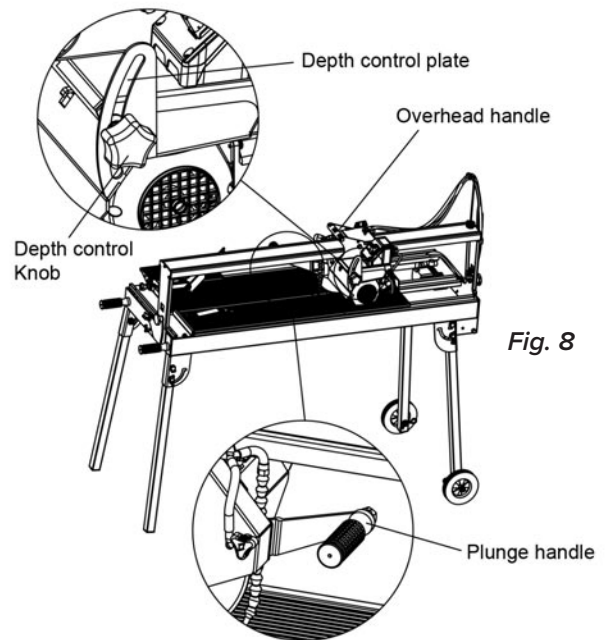

Fig. 8
1. While holding the plunge handle, loosen the depth control knob at the depth control plate. (see figure 8)
2. Make sure the depth control knob is tight. (see figure 8)
1. Before starting the cut, the cutting head must be fully raised. Be sure to grasp the plunge handle extending from the blade guard. (see figure 8)
3. Loosen the depth control knob. (see figure 8)
5. Make sure the depth control knob is tight. (see figure 8)